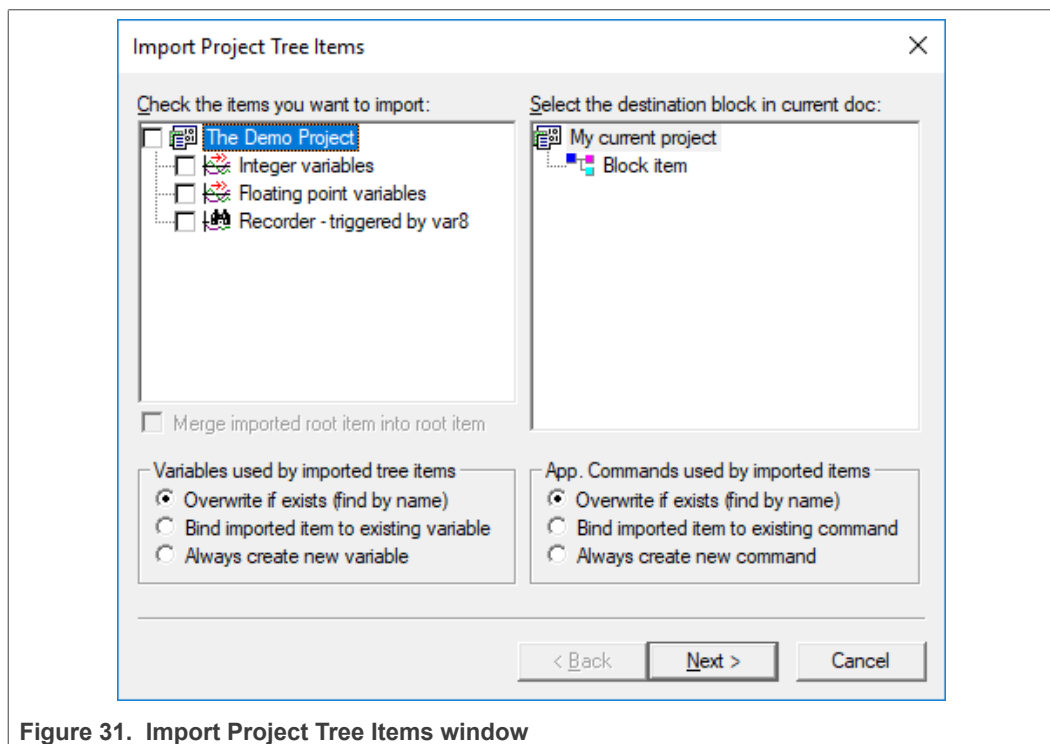

Figure 31. Import Project Tree Items window
The first dialog of the Import procedure is shown in Figure 31. After specifying the name of the original project file, select and check the project tree items you wish to have in your current project. You can also select the target block item under which you want the imported items to be created.
- Variables = tick each variable you want to import. You don't have to import variables that are referenced from the tree items selected in the previous dialog from Figure 31; such variables are always unconditionally imported.